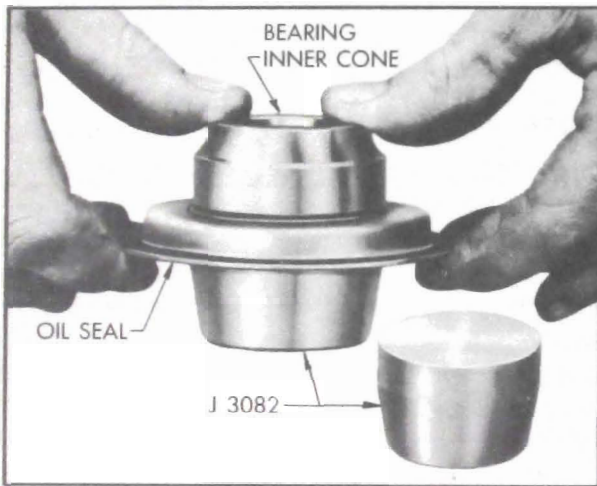

Figure 6-16—Installing Bearing Cone in Oil Seal with Packing Expander J 3082
5. Always install a new wheel bearing oil seal. To avoid damaging the oil seal packing use Packing Expander J 3082 to install bearing inner cone in seal before installation of seal in hub. Push the tapered expander into the seal, place inner cone against expander and push cone into seal until packing bears fully on cylindrical surface of cone. See figure 6-16.